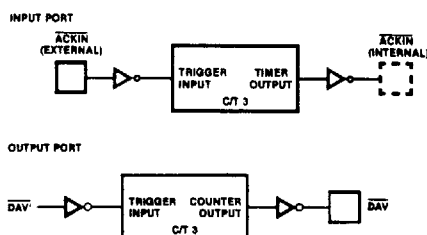

Figure 9. Pulsed Handshake
**Pulsed Handshake.** The Pulsed Handshake (Figure 9) is designed to interface to mechanical-type devices that require data to be held for long periods of time and need relatively wide pulses to gate the data into or out of the device. The logic is the same as the Interlocked Handshake mode, except that an internal counter/timer is linked to the handshake logic. If the port is specified in the input mode, the timer is inserted in the  $\overline{\text{ACKIN}}$  path. The external  $\overline{\text{ACKIN}}$  input triggers the timer and its output is used as the Interlocked Handshake's normal acknowledge input. If the port is an output port, the timer is placed in the Data Available ( $\overline{\text{DAV}}$ ) output path. The timer is triggered when the normal Interlocked Handshake  $\overline{\text{DAV}}$  output goes Low and the timer output is used as the actual  $\overline{\text{DAV}}$  output. The counter/timer maintains all of its normal capabilities. This handshake is not available to bidirectional ports.